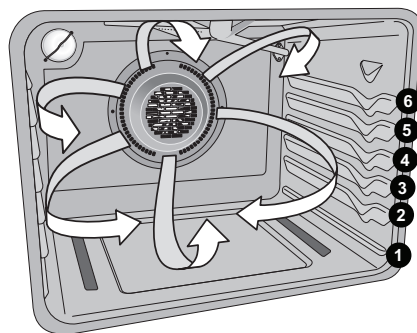

Figure 14: Air movement using convection
- For best results when using a single oven rack, place rack in position 3 or 4 (See Figure 14). When using two oven racks, place in positions 3 and 5. When using three oven racks, place in positions 2, 4, and 6 (use offset rack only in position 6).